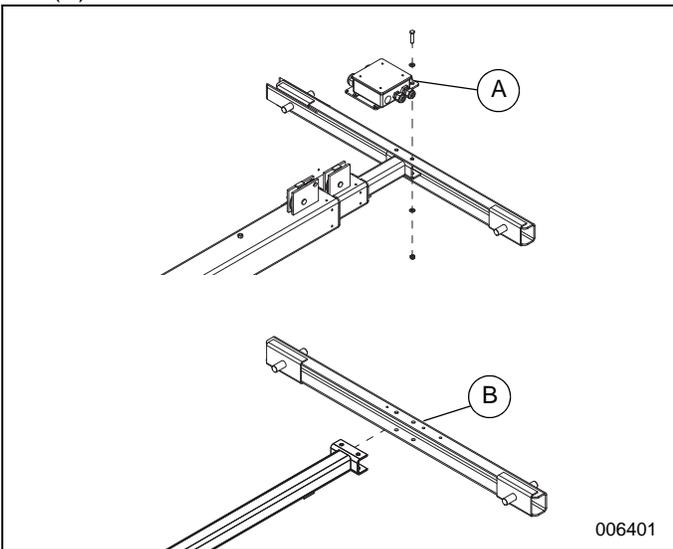

Figure 5. Junction Box and Crossbar Removal
- See Figure 5. Remove junction box (A) and crossbar (B) from mast.